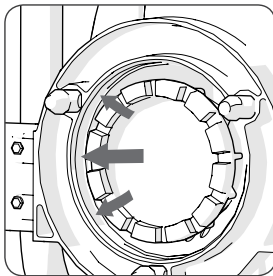

Fig 7 (arrows show inner wall of annular ring)
- Keep the annular ring scrupulously clean and free from debris. **(Fig. 7)**